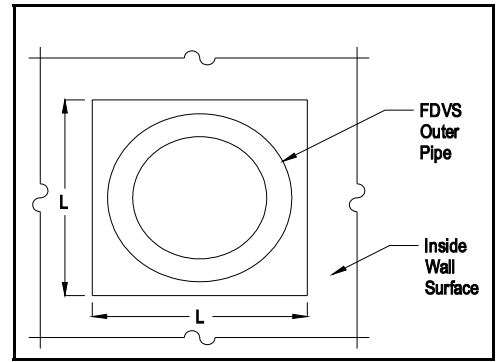
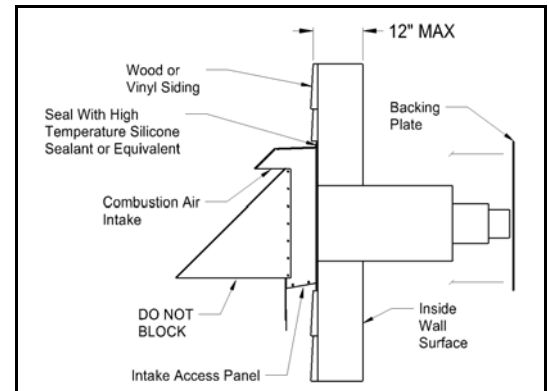

Figure 1 – End View
Figure 2 – Side View
4. After determining the location of the venting system termination (See Diagram A), cut a hole in the wall sized according to "L" dimension in Table 1. (See Figure 1) **NOTE:** Maximum wall thickness: 12"
5. Seal the back side of the base plate around the outer pipe of the vent termination with a bead of high temperature silicone sealant. (See Figure 2) Mount the vent termination through the wall, keeping the outer pipe centered in the hole. (See Figure 1) Fasten the vent termination to the outside wall with appropriate fasteners. Seal the edges of the vent termination base plate to the wall with a high-temperature silicone sealant.
6. Mount the backing plate over the outer pipe. Fasten the backing plate to the inside wall with appropriate fasteners. (See Figure 2) DO NOT BLOCK the intake or exhaust openings, or the intake access panel on the vent termination body. Wood or vinyl siding should be cut so that the unit mounts directly on the wallboard to provide a stable support. If the siding is greater than 1/2" thick use a spacer plate or board behind the vent termination mounting plate. (See Figure 2)
As part of the yearly maintenance schedule, remove the Intake Access Panel on the exterior of the FDVS vent termination (See Figure 2) and remove any debris or foreign material. Be sure to properly replace the panel.